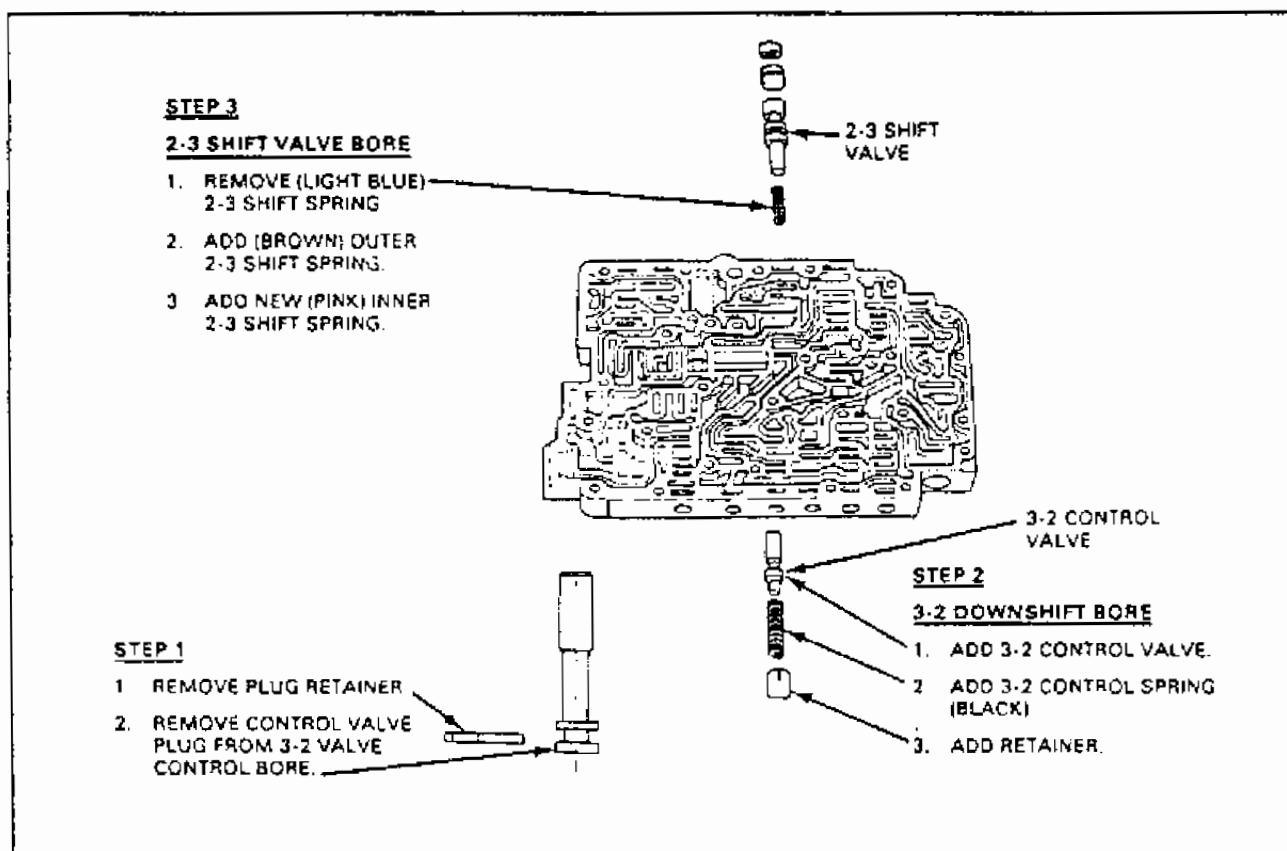

Figure 1
3. Replace the 2-3 shift valve spring with the two spring "Nested" assembly from the main control service kit (See Figure 1).